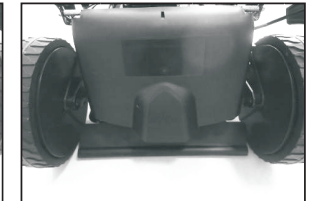

Fig.8C
3. Lower the rear cover. (Fig.8C)